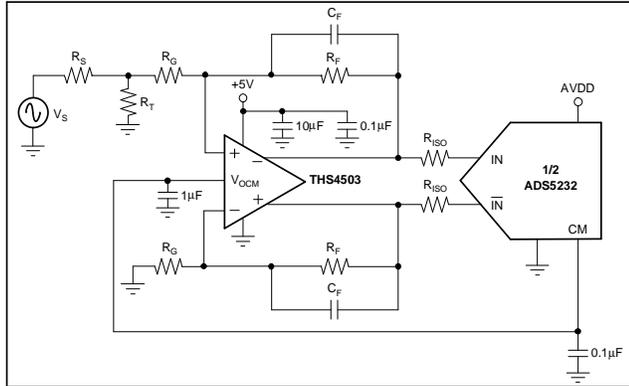

Figure 20. Using the THS4503 with the ADS5232
Applications that have a requirement for DC-coupling a differential amplifier, such as the THS4503, can be used to drive the ADS5232; this design is shown in Figure 20. The THS4503 amplifier easily allows a single-ended-to differential conversion, which reduces component cost.
In addition, the V_{OCM} pin on the THS4503 can be directly tied to the common-mode pin (CM) of the ADS5232 to set up the necessary bias voltage for the converter inputs. In the circuit example shown in Figure 20, the THS4503 is configured for unity gain. If required, a higher gain can easily be achieved as well by adding small capacitors (such as 10pF) in parallel with the feedback resistors to create a low-pass filter. Since the THS4503 is driving a capacitive load, small series resistors in the output ensure stable operation. Further details of this and the overall operation of the THS4503 may be found in its [product data sheet](http://www.ti.com) (available for download at www.ti.com). In general, differential amplifiers provide a high-performance driver solution for baseband applications, and other differential amplifier models may be selected depending on the system requirements.